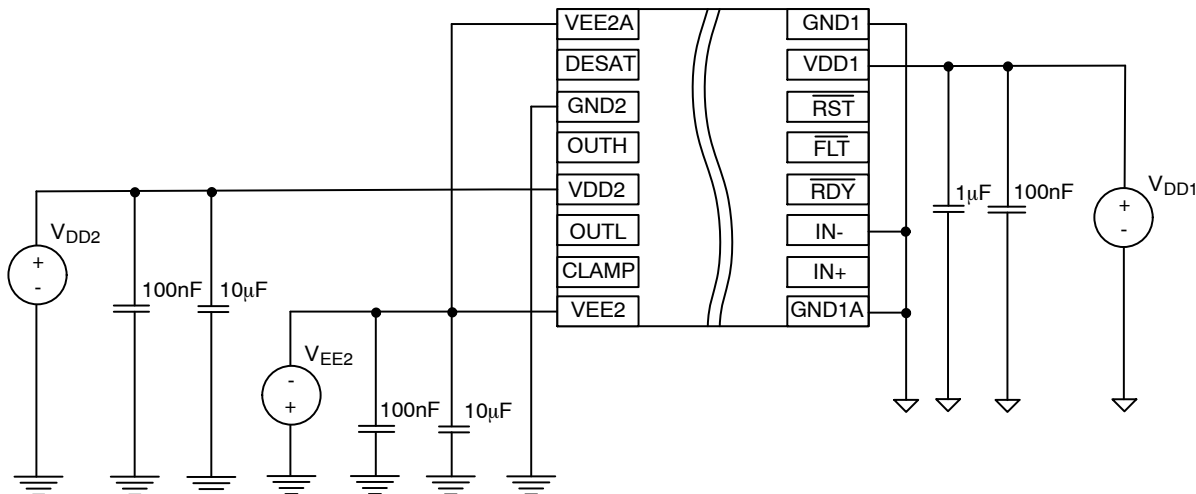

Figure 28. Bipolar Power Supply
- In bipolar power supply the driver is typically supplied with a positive voltage of 15 V at VDD2 and negative voltage -5 V at VEE2 (Figure 28). Negative power supply prevents a dynamic turn on throughout the internal IGBT input capacitance.